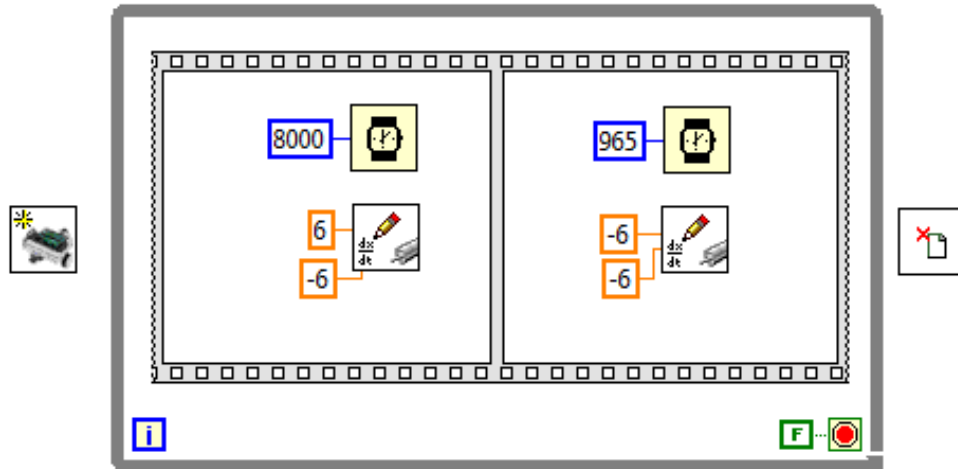

Figure 2.8
For the first frame we will use the value 8000ms for the wait statement. For the second frame we will use the value 965ms. (These are predetermined values that will cause the robot to travel 2 meters and turn 90 degrees at a certain velocity.) When you are done your block diagram should look like figure 2.8.
**Step 7:** We now need to add values to the terminals of the Write DC Motors that control the motor velocity. The predetermined value for the velocity is 6 radians/second. In all you will need to create 4 constants and attach them to their specified input. Reference figure 2.8 for correct constant placement. Also note the polarity of the constants. This will determine if the motors are rotating clockwise or counter-clockwise.